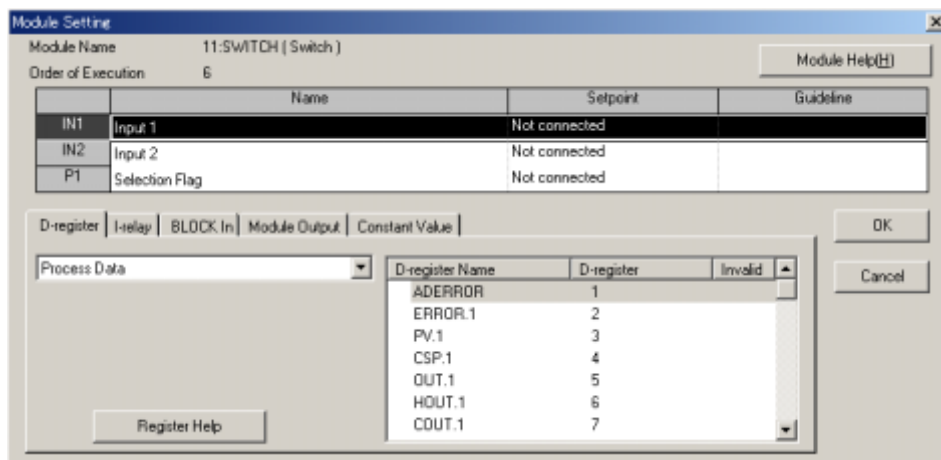

Figure 12.3.4 [Module Setting] Dialog Box
- (1) Click the registered fifth-run SWITCH module.
- (2) From the tool menus, choose <Editing>, then <Connection>. The [Module Setting] dialog box (Figure 12.3.4) appears.